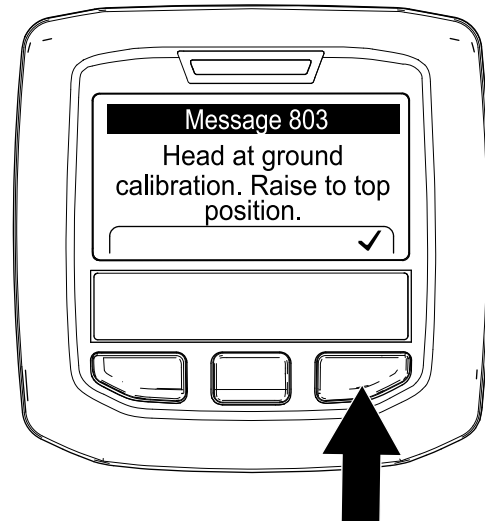

Figure 117
- The tines begin to penetrate the ground—press the right InfoCenter button (Figure 117) and run the Teach Ground Height application; refer to Running the Teach Ground Height Application \(page 37\).